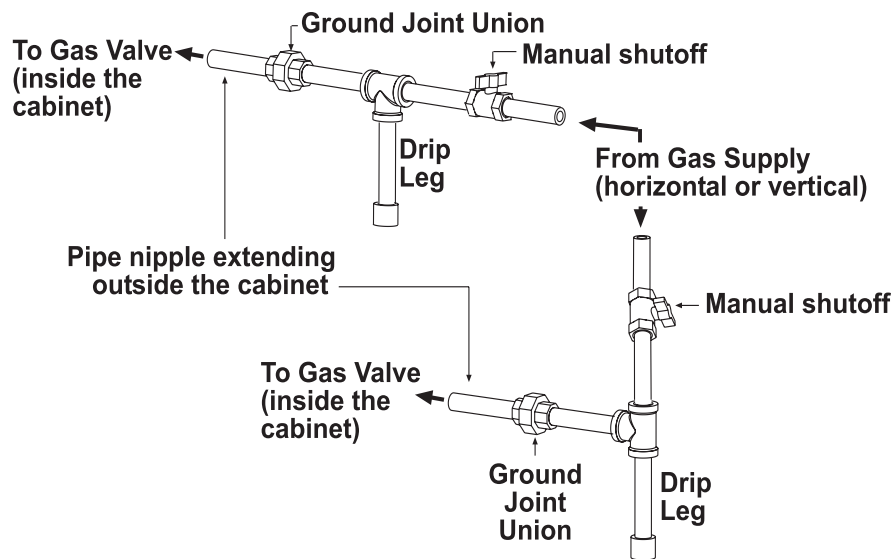

Figure 5. Gas Connections
- Install a ground joint union and manual shutoff valve upstream of the unit control system, as shown in **Figure 5**.
- The 1/8-inch plugged tapping in the manual shutoff valve in **Figure 5** provides connection for a supply line pressure test gauge.
- The National Fuel Gas Code requires the installation of a trap with a minimum 3-inch drip leg (see **Figure 5**). Local codes may require a drip leg longer than 3 inches (typically 6 inches). To permit burner removal, this drip leg must extend beyond the edge of the heater.
- The gas connection is made at the pipe nipple that extends outside the cabinet, as shown in **Figure 5**. Gas connection sizes are listed in **Table 9**.